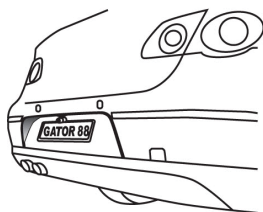

Fig.1
1. At the rear of the car locate a suitable mounting location for the butterfly camera ensuring that it is located as close to the center of the vehicle as possible and attach using the supplied screws. (EG: Fig 1) When mounting the camera, make sure the camera does not cover any part of the license plate.